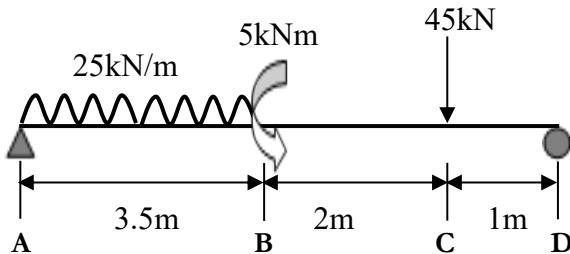

Figure A1(b) / Rajah A1(b)
- CLO1 (b) A simply supported beam is loaded as shown in Figure A1(b). With the aid of free body diagram (FBD), calculate the reaction force at support A and D.